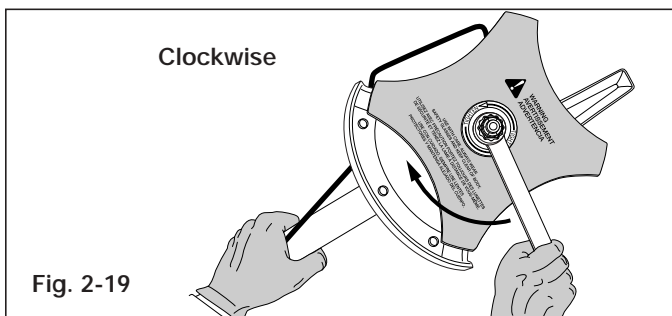

Fig. 2-19
3. While holding the locking rod, loosen the nut on the blade by turning it clockwise with a 5/8 inch closed-end or socket wrench (Fig. 2-19).